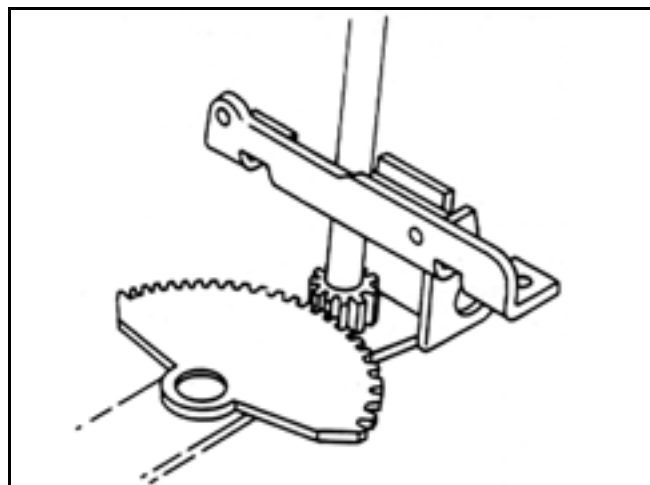

Figure 39
3. Ensure the steering wheel is centered, then center the steering shaft with the sector gear (Figure 39).